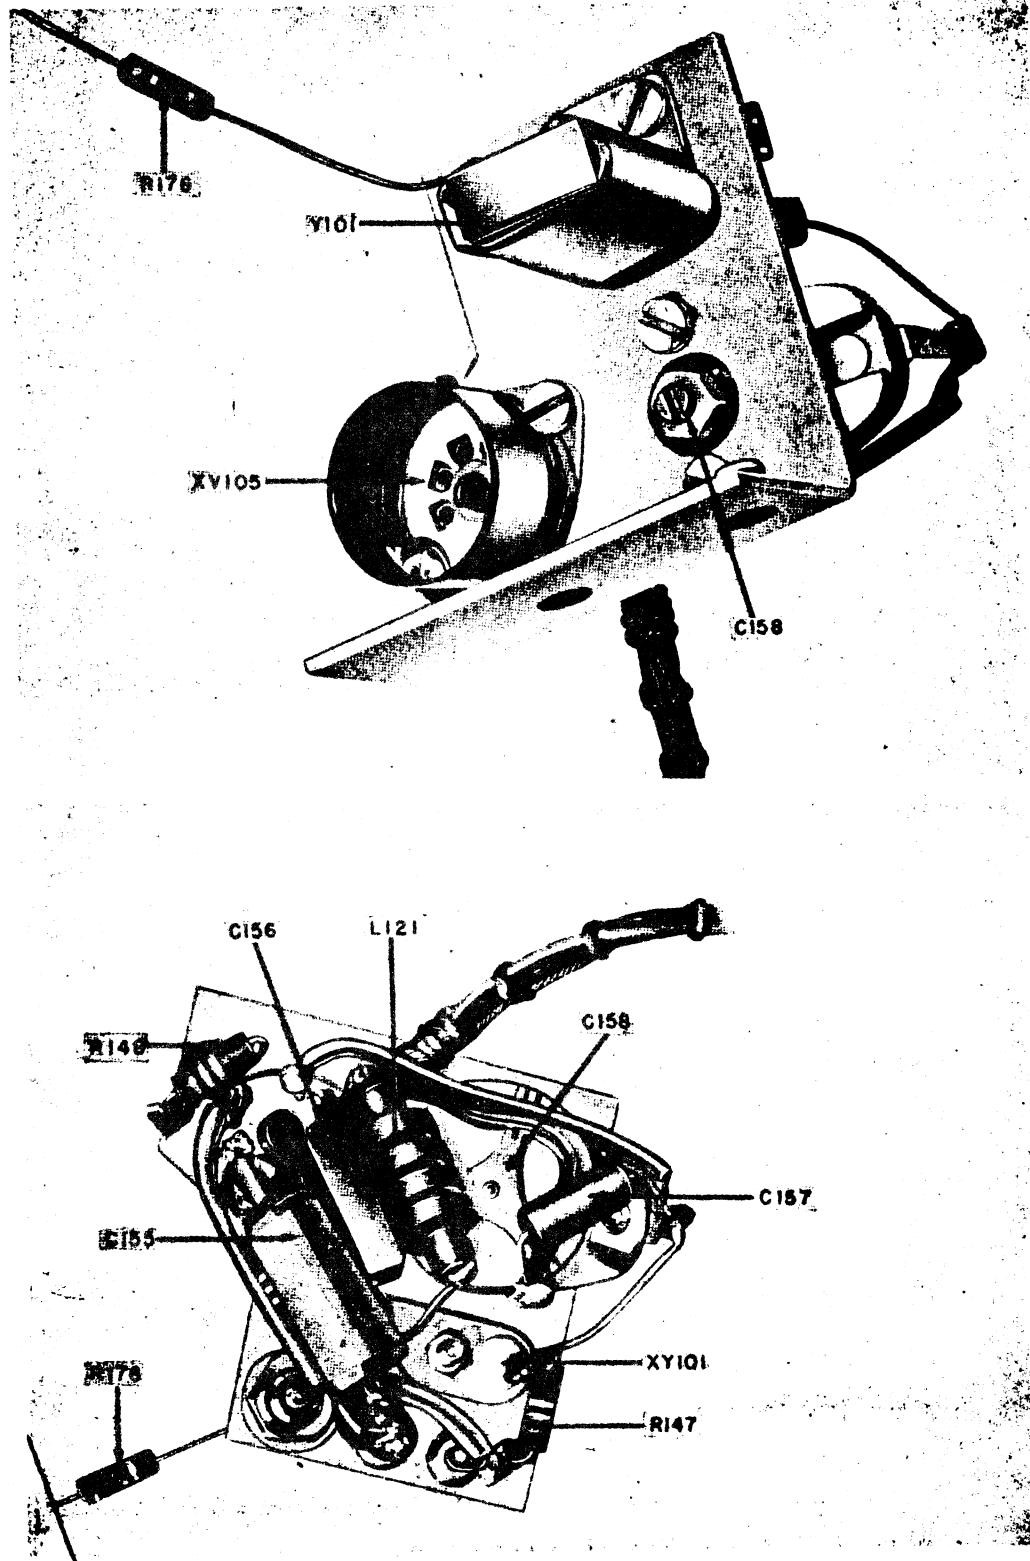

Figure 6-9. Top and Bottom Views of Crystal Calibrator Bracket
<p>(1) Provision is made for calibrating the 1 mc frequency of the crystal calibrator, if it is suspected that its accuracy has fallen off in excess of <math>\pm 0.05\%</math>. The calibration should be accomplished in the following manner:</p> <p>(a) Remove RF Signal Generator SG-85/URM-25D. (See par. 8a).</p> <p>(b) Connect the signal generator unit to Power Supply PP-977/URM-25D.</p> <p>(c) Tune a receiver, such as Navy Model RBC series to the 5 mc signal of Navy station WWV.</p> <p>(d) Turn the signal generator on and CARRIER CONTROL fully counter-clockwise.</p> <p>(e) Turn MOD-XTAL &amp; METER SELECTOR switch (S102) to XTAL position. Connect a lead from the X-200K RF OUTPUT jack J101 to the antenna input on the RBC. Sufficient crystal output will be available at J101 to drive the receiver.</p> <p>(f) With the receiver tuned to WWV, adjust crystal frequency adjusting capacitor (C158) (figure 6-9) for zero beat (fifth harmonic of 1 mc crystal) against WWV. A set of earphones or speaker can be used for monitoring this beat.</p>